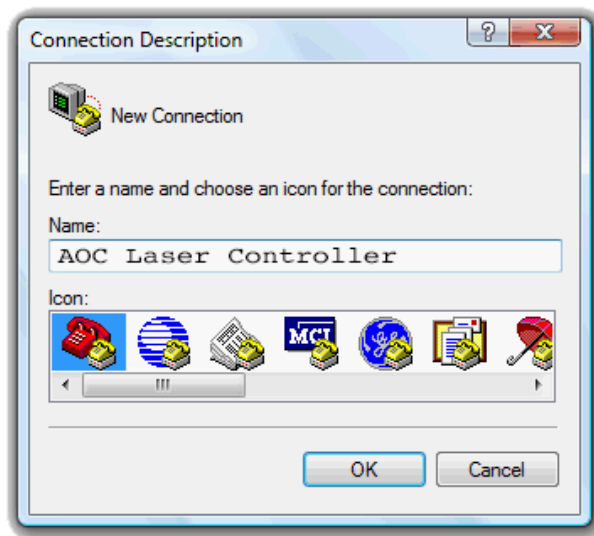

Figure 7: Naming the Connection.
- Once HyperTerminal opens, it will automatically prompt you to create a new connection if none exist. If no connection(s) exists, you can click File | New Connection to create a new one, we suggest that you pick a unique name such as "AOC Laser Controller" see Figure 7.